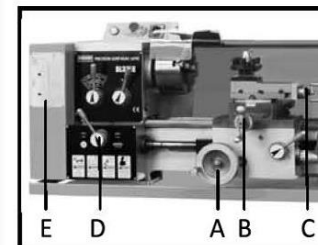

Fig. 12
Handwheel of Apron travel(A), cross travel(B) and top slide(C) can be operated for longitudinal or cross feeding (Fig. 12)
1. Set the selector knob (D. Fig. 12) to select the feed Direction and the feed speed
2. Use the table (E. Fig. 12)on the lathe for selecting the feed speed or the thread. Adjust the change gear if the required feed or thread cannot be obtained with the installed gear set